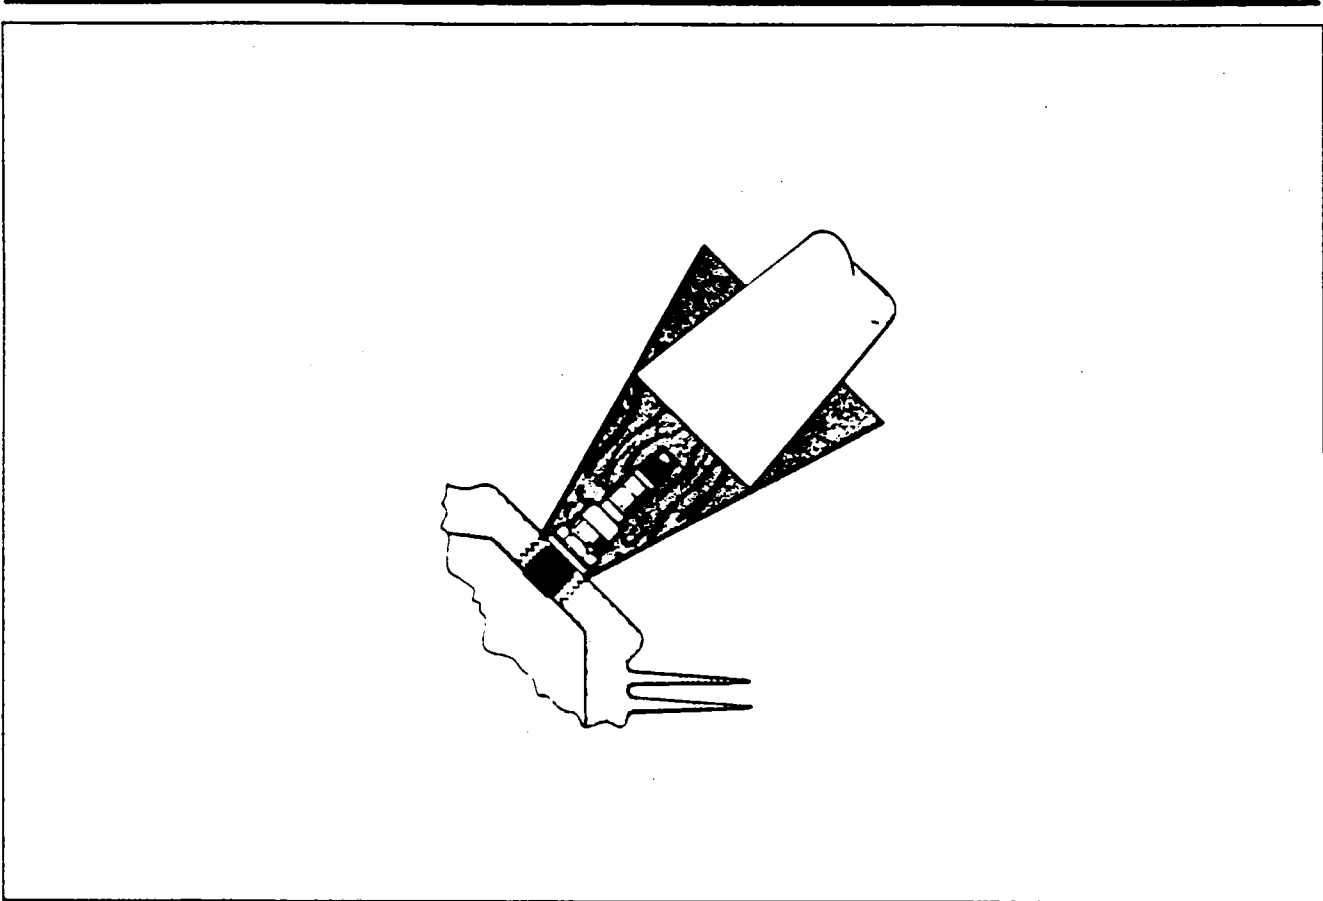

Figure 74-22. Removing Frozen Spark Plug
4. Removal of seized spark plugs in the cylinder may be accomplished by application of liquid carbon dioxide by a Conical metal funnel adapter with a hole at the apex just large enough to accommodate the funnel of a CO₂ bottle. (Refer to Figure 74-22.) When a seized spark plug cannot be removed by normal means, the funnel adapter is placed over and around the spark plug. Place the funnel of the CO₂ bottle inside the funnel adapter and release the carbon dioxide to chill and contract the spark plug. Break the spark plug loose with a wrench. A warm cylinder head at the time the carbon dioxide is applied will aid in the removal of an excessively seized plug.